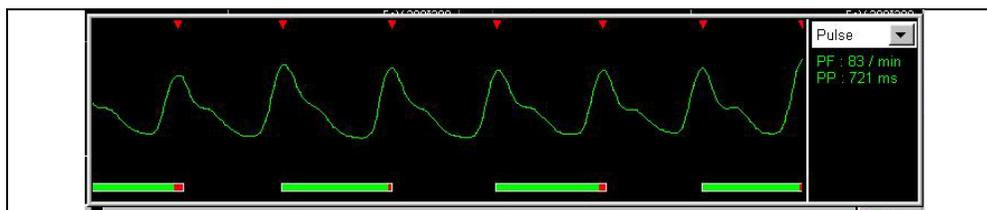

Figure 12:
- e. You can now start the scan. The automated shimming scan will be acquired for about a minute. Then the DTI scan will be ready to start. Make sure to monitor the study in case the subject's heart rate changes or they move their fingers. You should hear a rhythmic acquisition coming from the scanner and no missed beats in the physiological monitoring window, see Figure 11. A few missed heart beats is not a problem, but consistent missed triggering will make the scan time very long, see Figure 12. The RR should be re-evaluated and the scan restarted.
When issues arise during the gated sequences that cause a variable heart rate (e.g., tremor, increased anxiety or minor cardiac arrhythmias) this can interfere with the gated acquisition. In such cases you may notice a much longer scanning time during the DTI sequence (e.g. from the usual 12 to more than 15 min) or variable triggering of the scanner. This can be detected by noticing frequent pauses in the scanning sounds or gaps between scans as shown by the green bar below the pulse waveform in the physiologic window (see Figure 12 in the operations manual for an example of delayed triggering).